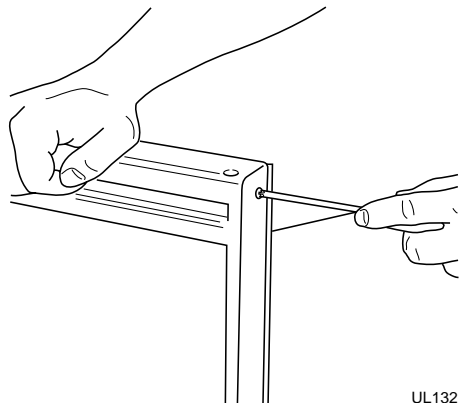

Figure 30
4. Remove two small screws holding door handle. Slightly separate door handle from door (see Figure 30).